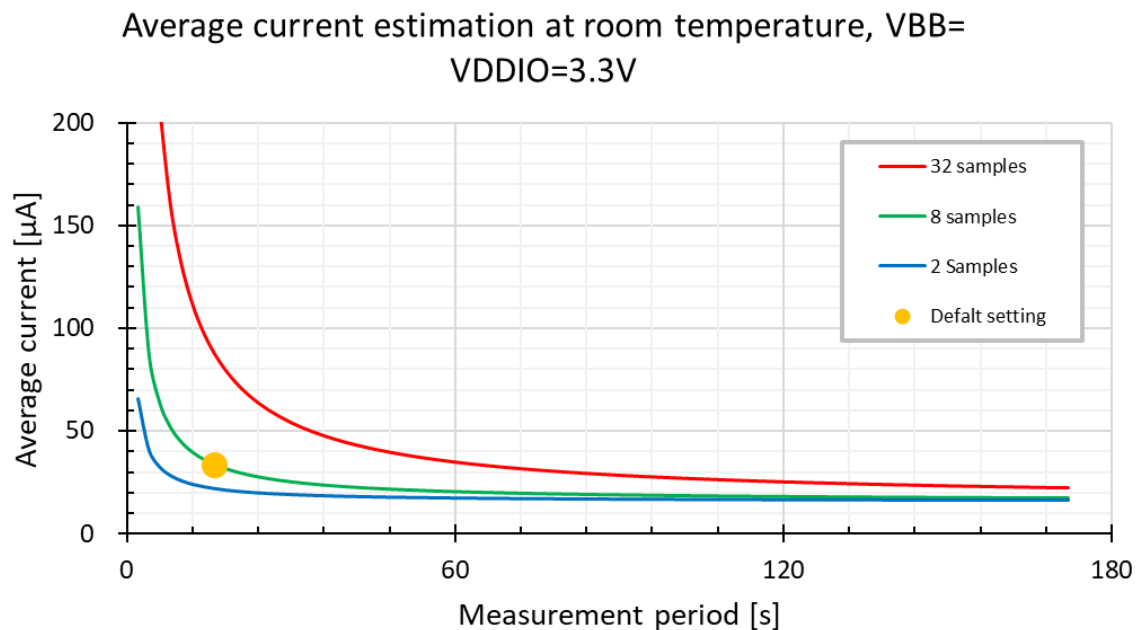

Figure 5 Average current
- Note 8: nRDY output pin disabled. See Figure 5 Average current.